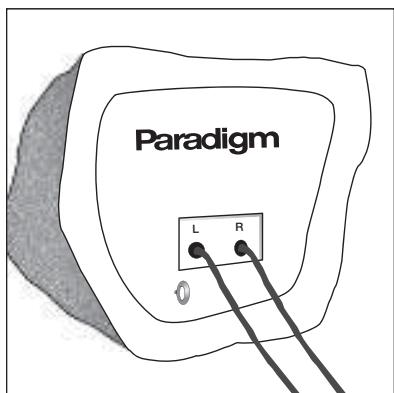

Fig. 7
1. Without moving the speaker too much out of position, turn it so that the bottom is facing you. (Fig. 7)